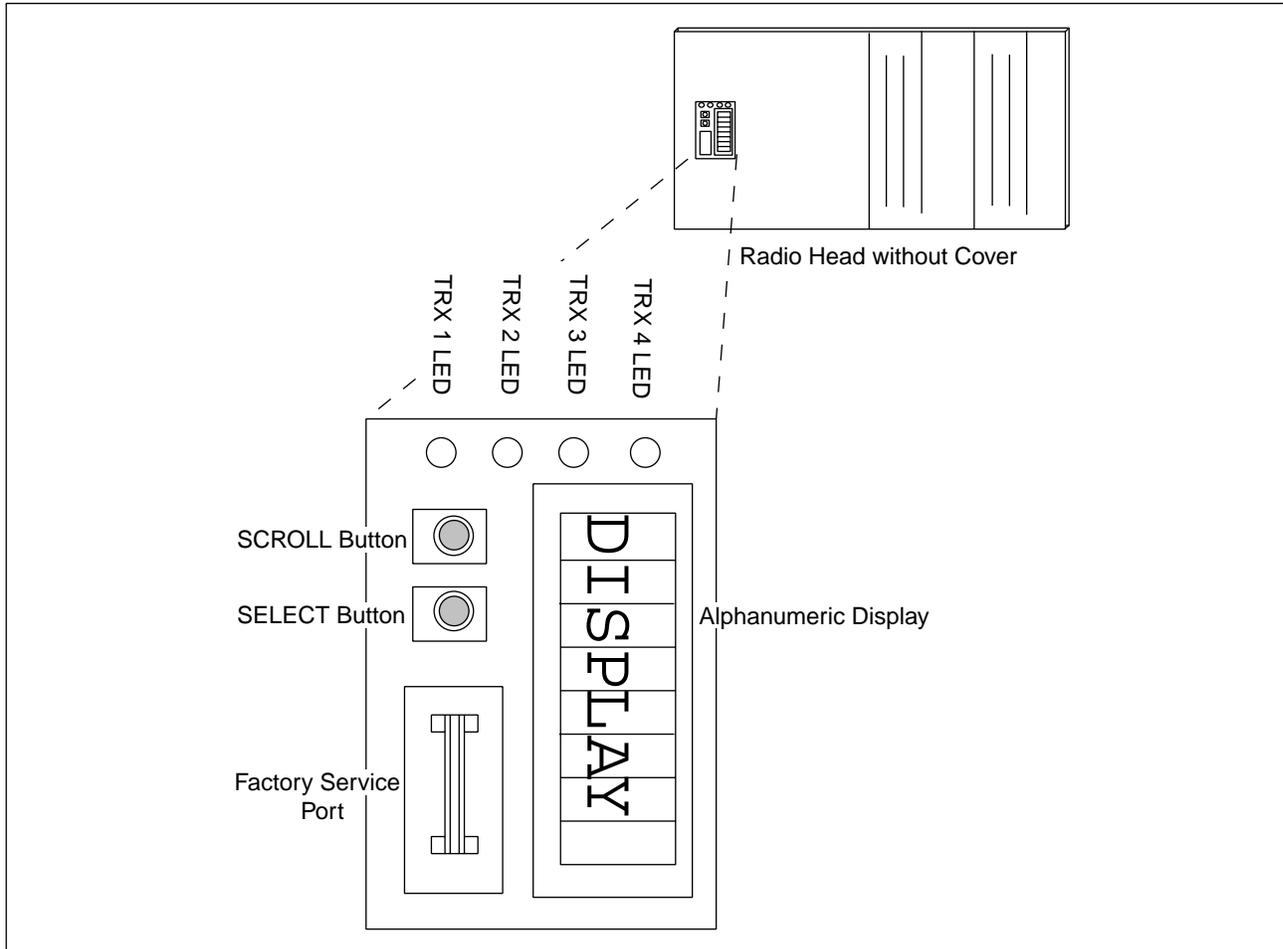

Figure 6-21. Radio Head Customer Interface
28. Check the TRX LEDs. Refer to Figure 6-21 on page 6-51 for the location of the TRX LEDs. The TRX LEDs should be steady yellow indicating that the TRXs are deblocked and not carrying traffic. Refer to *Part 7, Troubleshooting* for further information on troubleshooting TRX problems.